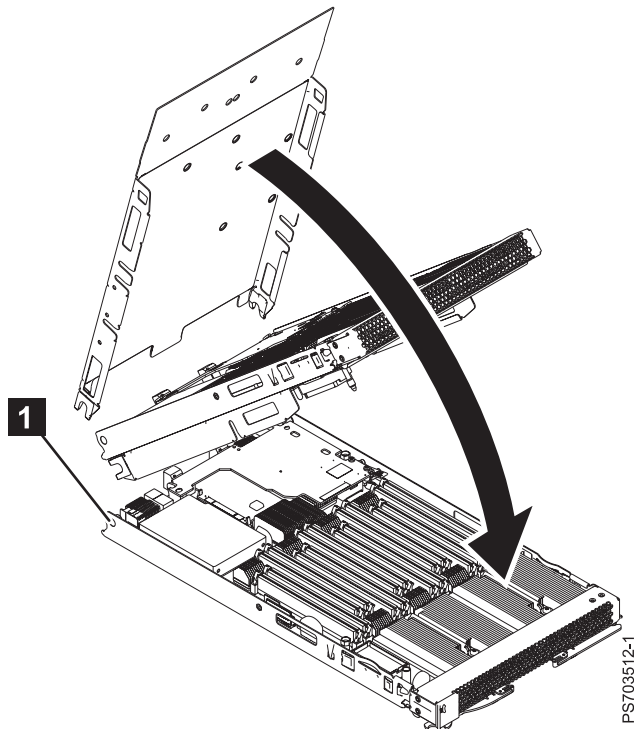

Figure 15. Replacing the expansion unit
1. Lift the expansion unit above the blade server base unit and engage the circular pivot bearings onto the cover pins (as shown by **1** in Figure 15) of the base unit.